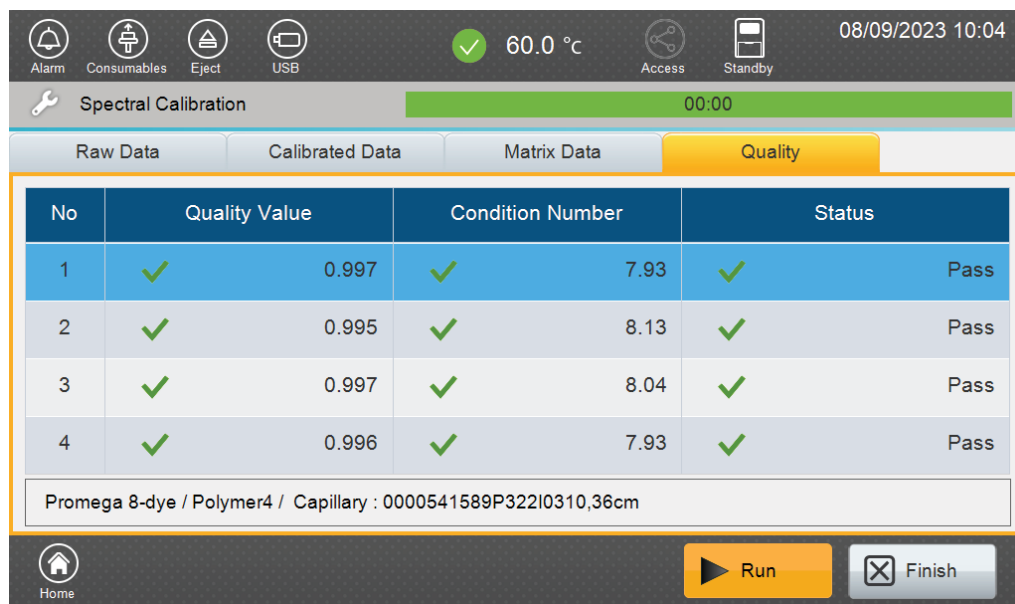

Figure 13. Spectral Calibration 'Quality' tab screen.
- Review the quality of the spectral calibration by selecting the 'Quality' tab (Figure 13).